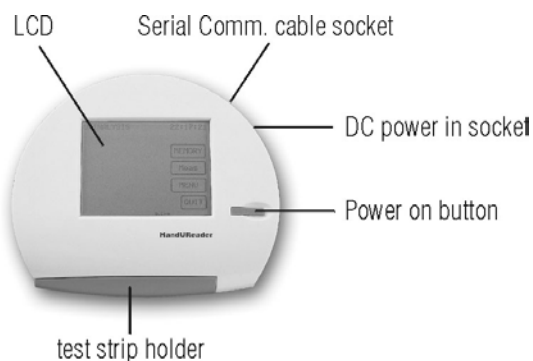

Figure 2. The Reader Unit
- Using the standard RS232 serial cable (included), connect the Reader Unit's serial port (see figure 2) to your computer's serial port, if you want to upload and collect data in a database.